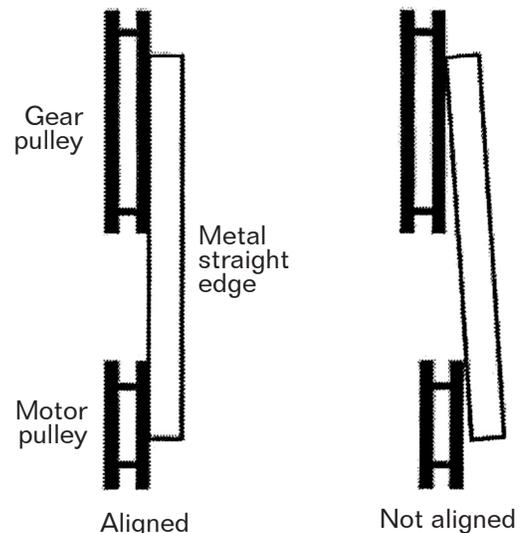

Figure 13
2. If the straight edge does not lie flat on both pulley faces, as shown in Figure 13, open the rear panel and loosen the four hex nuts on the motor plate with a 12 mm wrench.